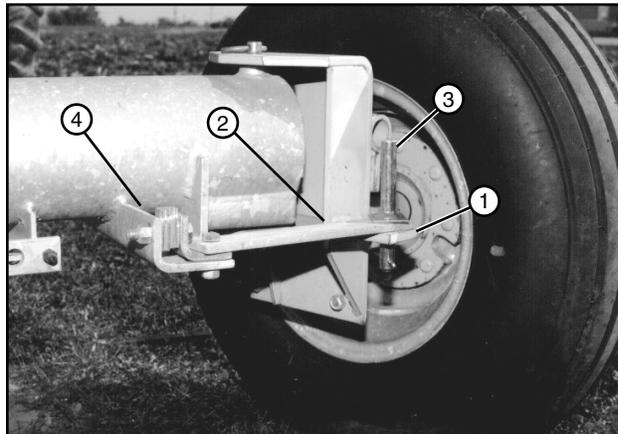

Figure 44-2 1. Steering Arm
8. Secure wheel in the swivel position with original hardware. See figure 44-2.